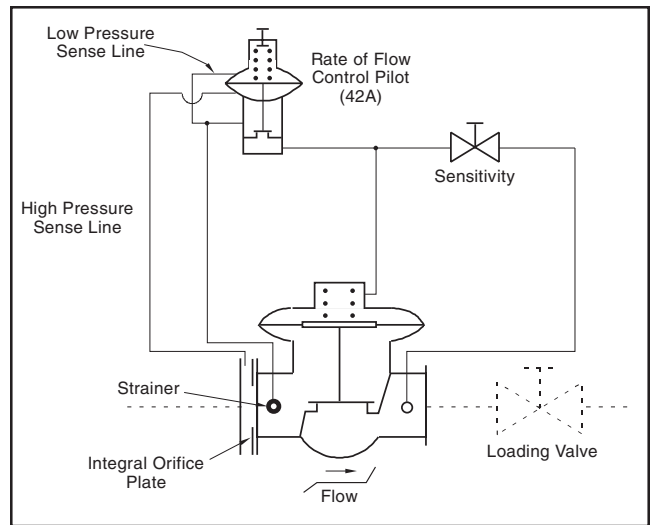

Figure 2—Model 200-42A
The Model 200-42A valve operates using the same differential pressure principle as the 200-40A valve except that the normally-closed 42A pilot is located in the upstream side of the pilot loop (Figure 2). An increase in differential pressure across the valve orifice plate causes the 42A pilot to open, introducing system inlet pressure into the main valve (200) cover chamber and throttling the main valve to restrict product flow. The 200-42A configuration minimizes pressure drop when the valve is not throttling because the main valve cover chamber is closed off from high upstream pressure by the normally-closed 42A pilot.